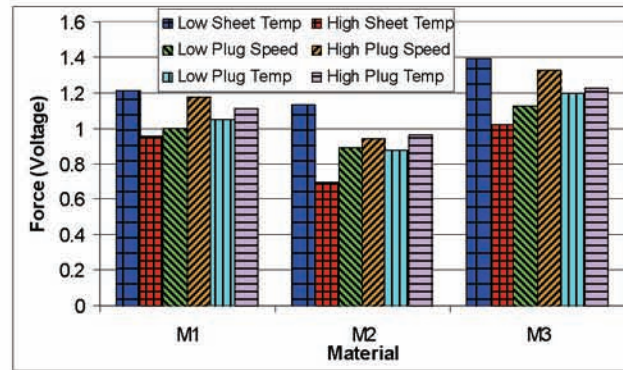

Figure 13. The variation of plug force during thermoforming with changes in thermoforming settings.
The variation of plug force during thermoforming with changes in thermoforming settings is shown in Figure 13. Figure 13 shows that for all material grades with increased sheet temperature (D), the plug force decreases; with increased plug speed (E) the plug force increases;